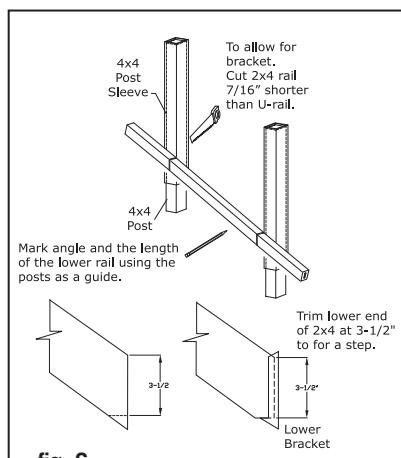

fig. 6
Step 12(a): Using a 2x4 bracket as a template, mark screw positions on the post and pre-drill with a 1/8" drill bit (fig. 6). Attach bracket to the post with two 2" long screws. Repeat marking and pre-drilling the post sleeve for the other end. Install the upper rail in the brackets and pre-drill the six holes with a 1/8" drill bit. Fasten the rail in place with six 1" screws. **Note! On applications where the rail is connected to a corner post, pre-drill and toe-screw a 1-1/2" pan head screw at a 45° angle down through the end of the 2x4 and bracket into the post.**
Step 4: Measure the distance between installed post sleeves to determine the length of the top and bottom rails (figs. 4a and 4b). **Note! Trim the inner rail and the U-rail to the measurement of the gap between the posts. To allow for the thickness of the brackets, trim the 2x4 rails to 7/16" less than the gap between the posts.** Cut rails to length and angle (fig. 6).
Step 6: The lower end of the 2x4 rails requires a second cut perpendicular to the first to fit on the lip in the lower 2x4 bracket. Measure 3-1/2" from the top of the rail and mark. Trim off the portion extending below the 3-1/2" mark (fig. 6). Position the bottom 2x4 rail between the posts.
Step 10(a): Using a 2x4 bracket as a template, mark screw positions for the top rail on the lower post and pre-drill with a 1/8" drill bit. Attach with 2" screws (fig. 6).